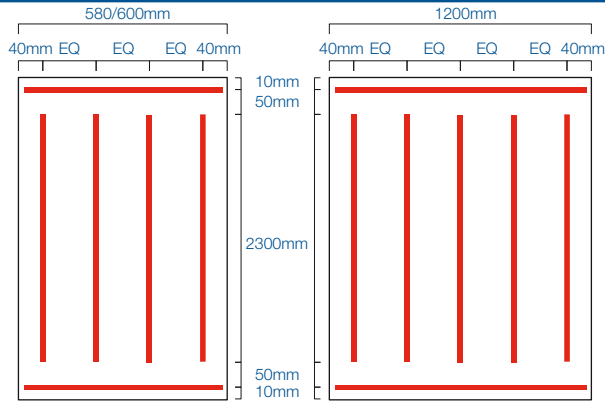

Fig A3 Application of BB Complete adhesive
- 7 Apply approx. Ø3mm beads of BB Complete as shown in *fig A3*,
- 7 Thoroughly clean the back and face of the panel and apply approx. Ø3mm bead of BB Complete to the back of the panel as shown in *fig A3*. Also apply and spread a thick layer of BB Complete to the bottom edge of panel.
- 9 Thoroughly clean the back and face of the panel and apply approx. Ø3mm beads of BB Complete to the back of the panel as shown in *fig A3*. Also apply and spread a thick layer of BB Complete to the bottom edge of panel.